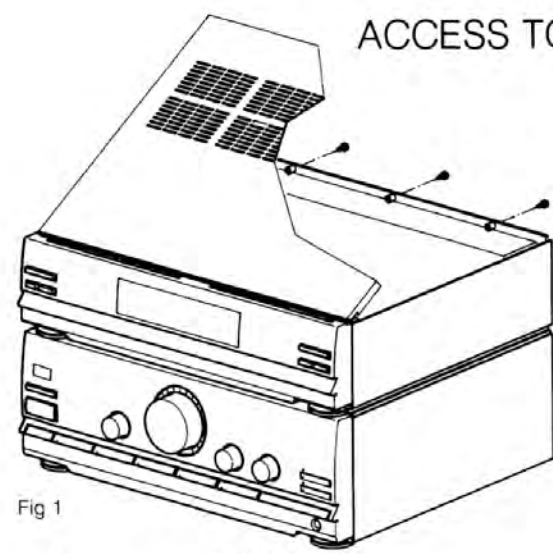

Fig 1
- 1) Loosen 3x Torx 10 screws (see figure 1).
- 2) Remove top (see figure 1).